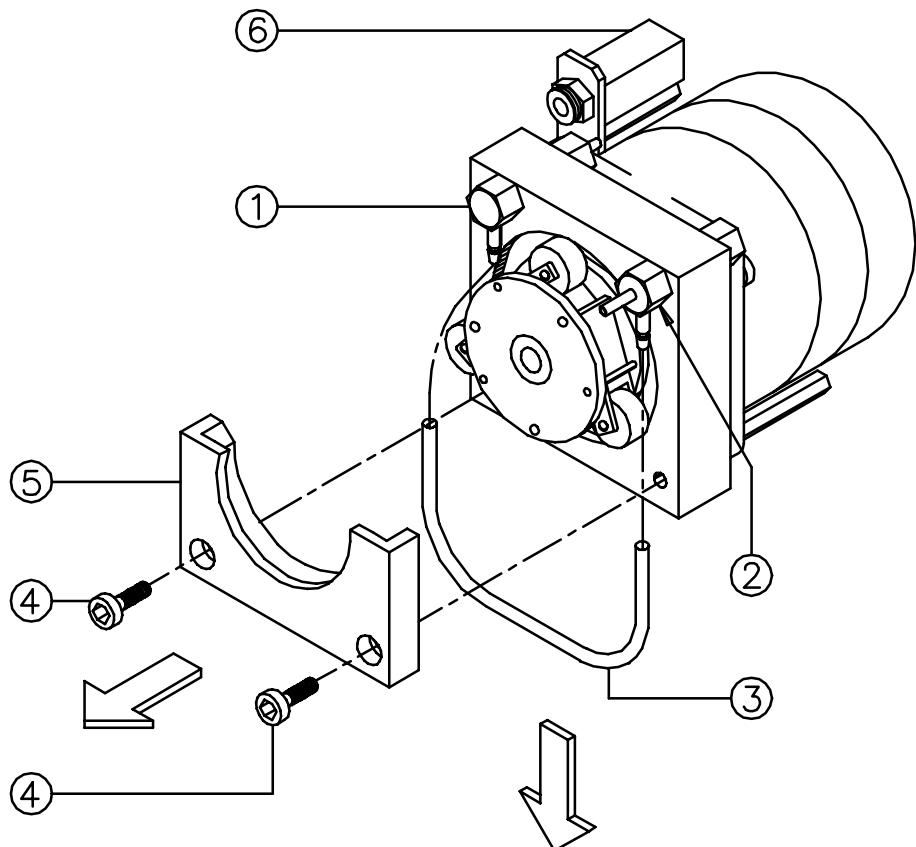

Fig. 13.5
13.4.1. - FLOW-CELL PERISTALTIC PUMP (see figure 13.5)